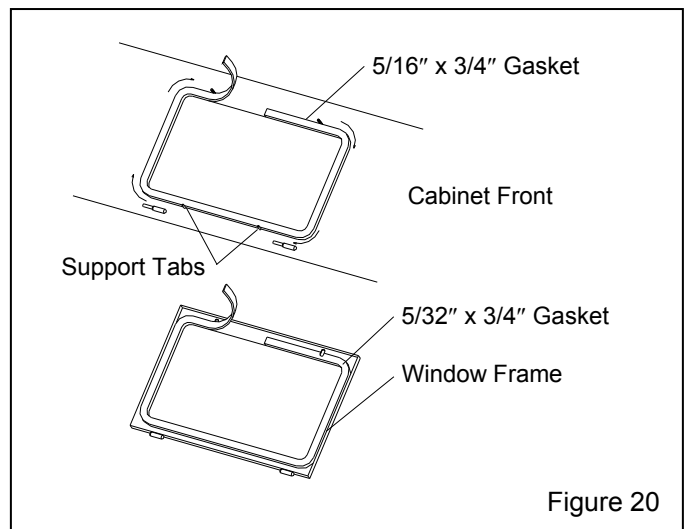

Figure 20
7.5 Window Gasket Replacement, Figure 20
7.5.4 Peel a short section of adhesive backing from the 5/16"-thick strip gasket, and adhere the gasket to the center of the top edge of the window opening as shown in Figure 20. Peel additional backing as needed, and work the strip around the radius of each corner, pressing it firmly to bond. Trim the gasket to fit and compress the ends to seal.